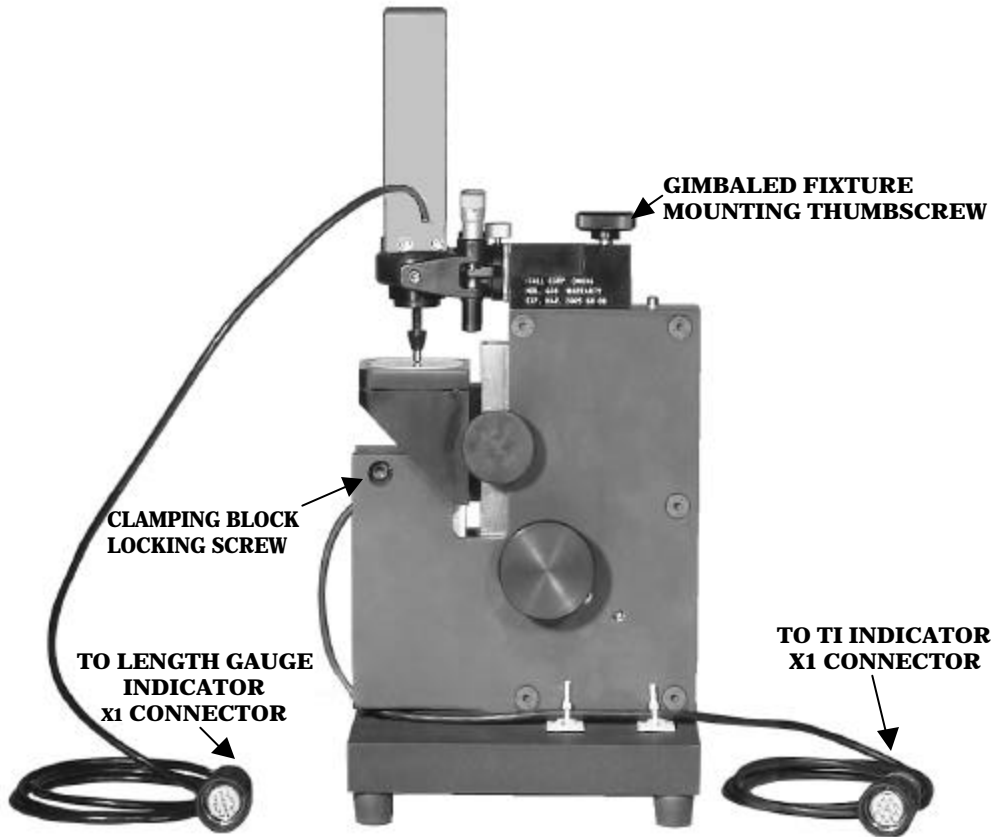
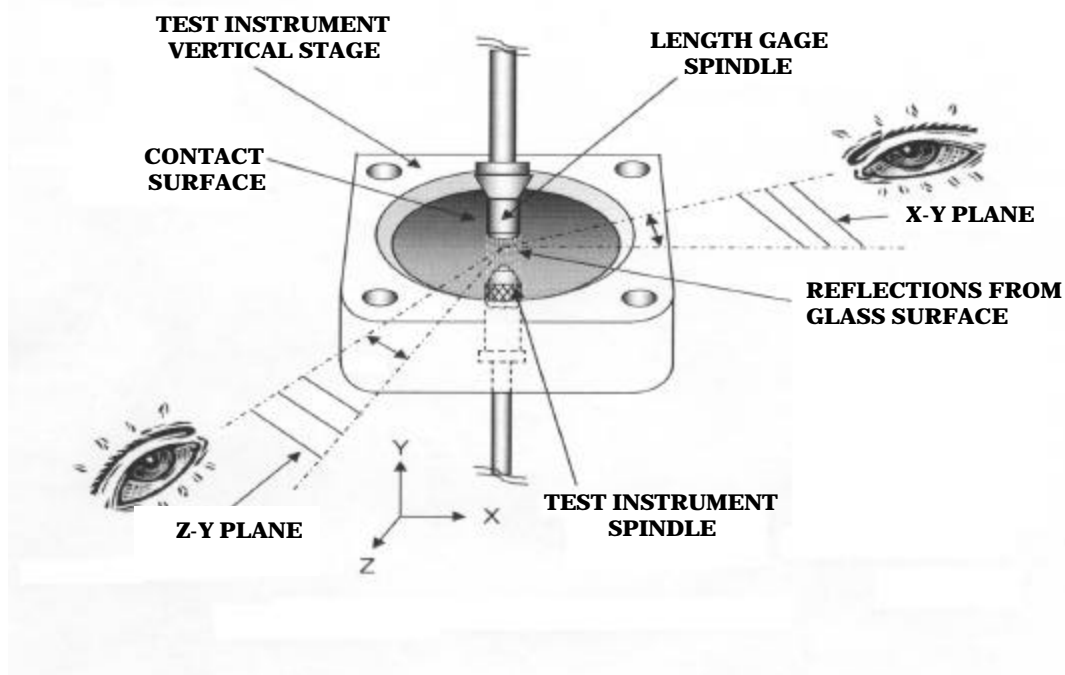

Figure 1. Equipment Setup.
Figure 3. Length gauge spindle alignment.
b. Connect indicators as shown in figure 1. Fasten length gauge to TI, as shown in figure 1, using gimbaled fixture supplied with length gauge.
Adjustment procedure follows: Place the TI (without indicator) in a horizontal (back down) position. Loosen the clamping-block locking screw (fig. 1) 1/4 of a turn counterclockwise, using a 3/16 inch Allen wrench. Position transducer as necessary; turn the clamping-block locking screw (figure 1) 1/4 of a turn clockwise, using a 3/16 inch Allen wrench until it is securely clamped and there is no binding of the transducer spindle. It is important that the TI transducer spindle move freely and the transducer not slip.
g. Adjust the TI course adjustment knob so that the TI contact surface is fully raised. Loosen gimballed fixture mounting thumbscrew (fig. 1). Adjust gimballed fixture so that the length gauge contact point is aligned with the TI contact point (fig. 3). Tighten gimballed fixture mounting thumbscrew